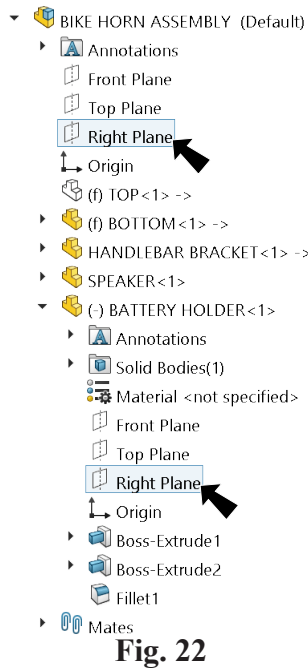

Fig. 22
Step 2. Expand the flyout Feature Manager design tree, expand **BATTERY HOLDER** and click **Right Plane** , **Fig. 22**.